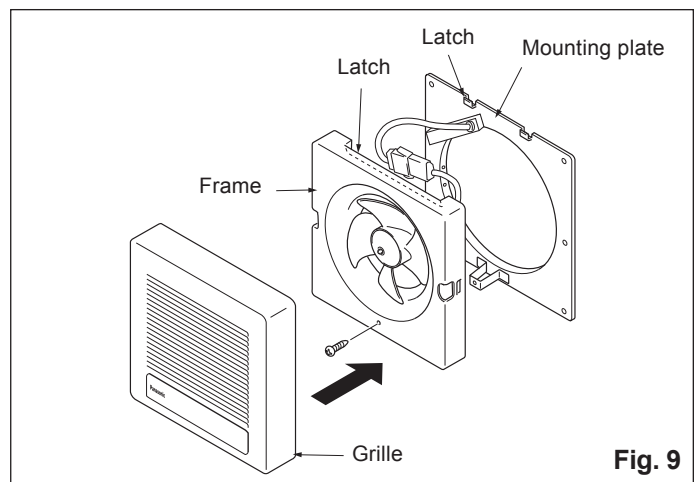

Fig. 9
11. Attach the electrical connectors to each other, hook the frame latches onto the mounting plate latch, and secure the fan unit to the mounting plate with the supplied screw (screw III). (Fig. 9)